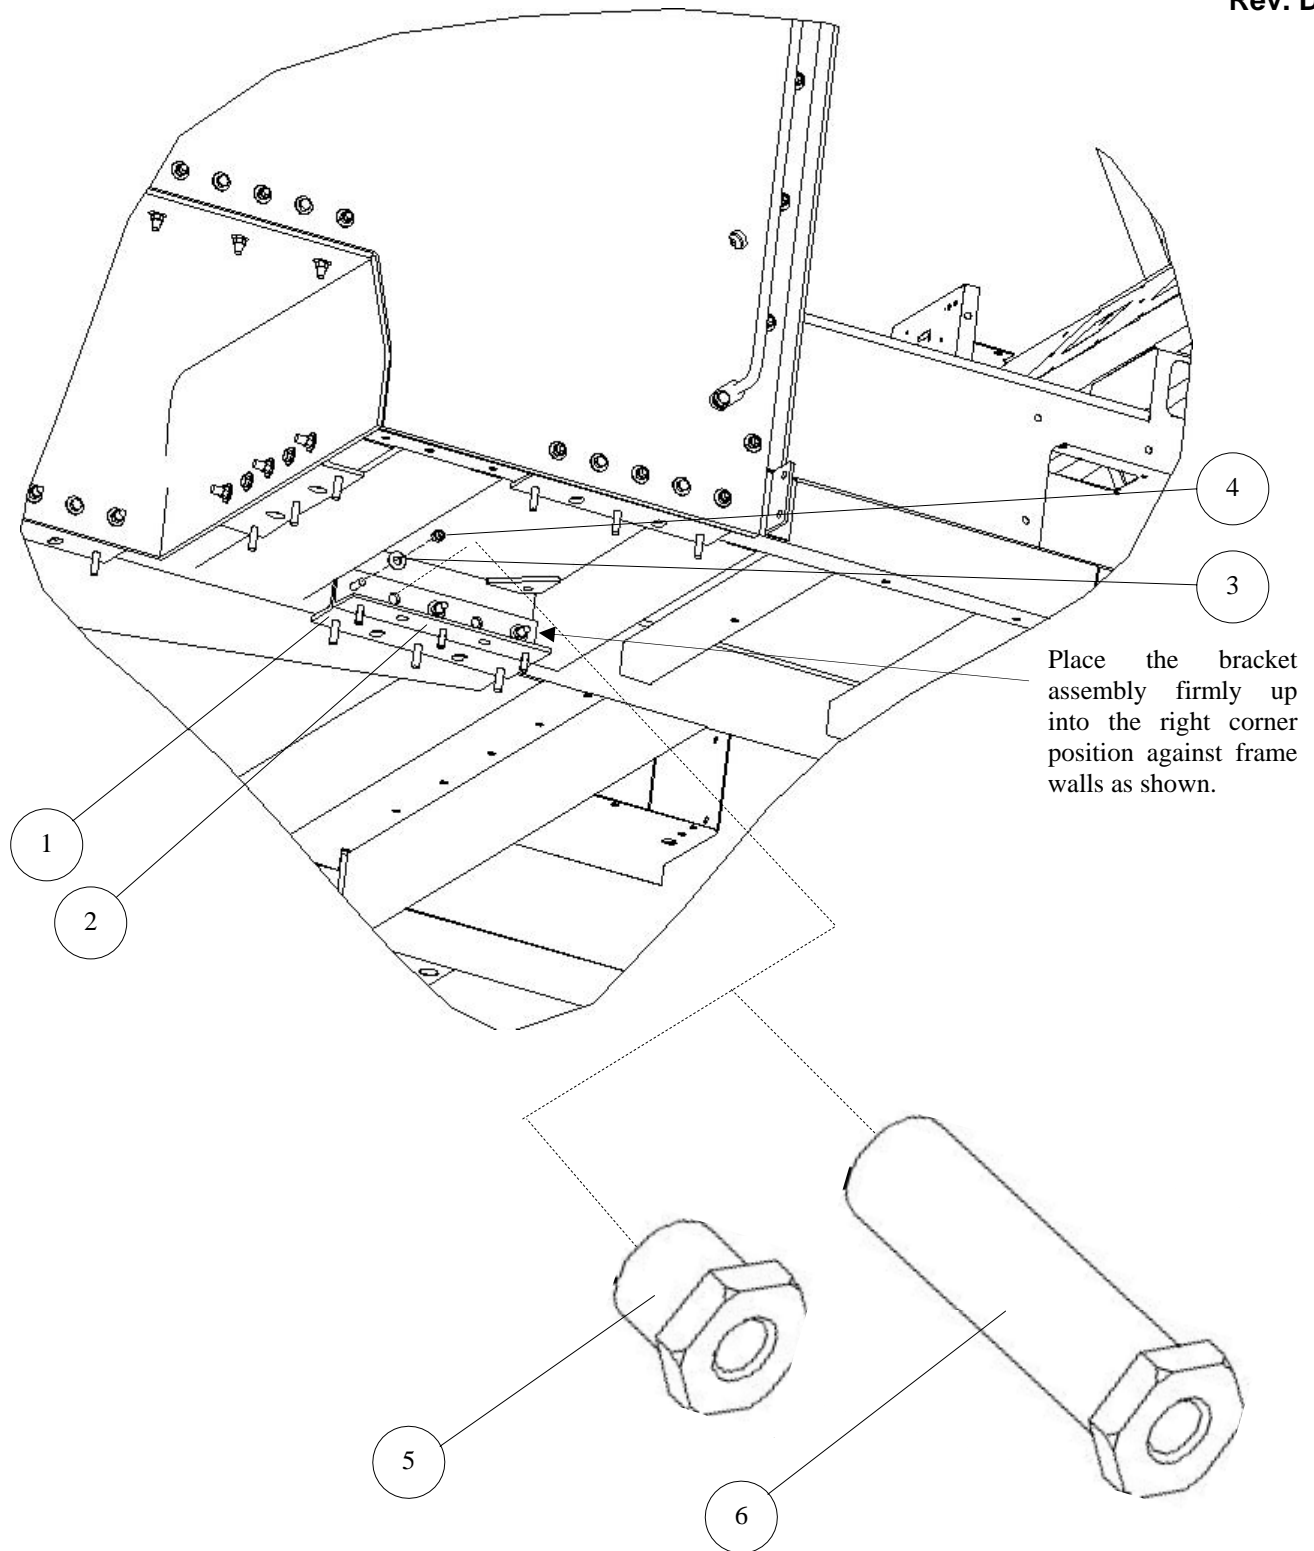

Figure 3-32. Assemble Bottom Rear Brackets and Match-Drill Cab Frame Rail.
1. Assemble bottom rear brackets and match-drill cab frame rail as follows (see Figure 3-32):
- a. Assemble 90° joiner bracket (1) to bottom rear bracket (2) using three flat washers (3) and locknuts (4), as shown in Figure 3-32.
The following procedure is used for each of the holes shown in Figure 3-32.